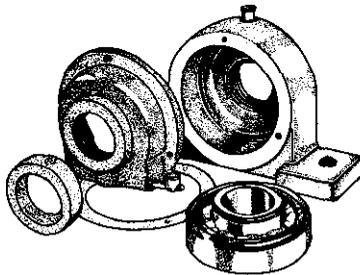

Fig. 6 - Disassembled View of Pillow Block Ball Bearing
3.05 The bearings of ventilating fans are usually either the oil ring or the ball bearing type as illustrated by Figs. 6 and 7. Ball bearings may be either the grease or oil lubricated type. All bearings must receive periodic attention. When inspecting bearings, the following items should be checked: